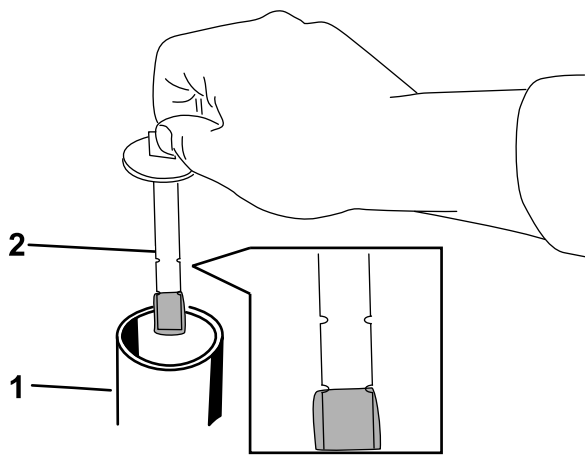

Figure 74
7. Remove the filler-neck cap and check the fluid level on the dipstick (Figure 74).